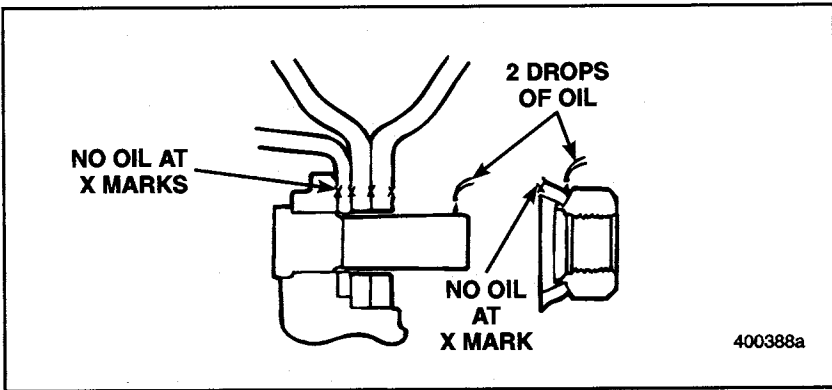

Figure 68 — Flanged Nut Installation
Dual Disc Wheels (Stud Located Ball Seat) — Loosen outer wheel nuts first, then tighten the inner nuts in sequence shown (Figure 68) to the specified torque value given in table on page 194. After inner nuts are tightened, tighten outer wheel nuts, in sequence, to the specified torque value.
3. Starting at the top stud position, partially torque the nuts in the sequence as shown in the illustration Figure 68.